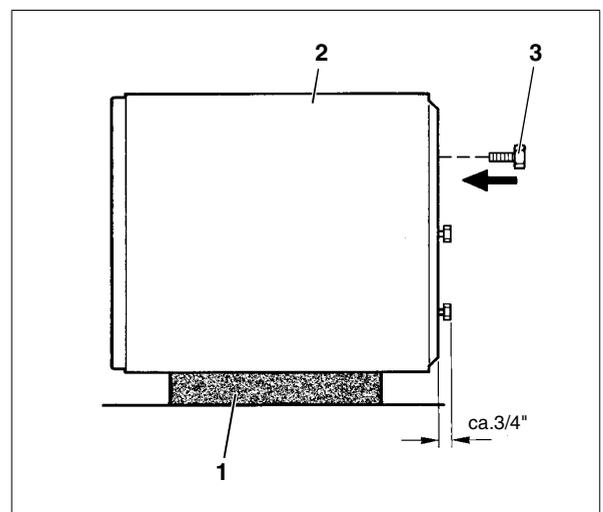

Fig. 3 Tank on top of styrofoam piece (measurements in inches)
- Remove top styrofoam piece and wooden corner posts. Place tank on its side on top of styrofoam piece.(Fig. 3, **Item. 1**).
- Scew 3 M10x30 bolts in bottom of tank to serve as tank leveling legs.(Fig. 3, **Item. 3**)